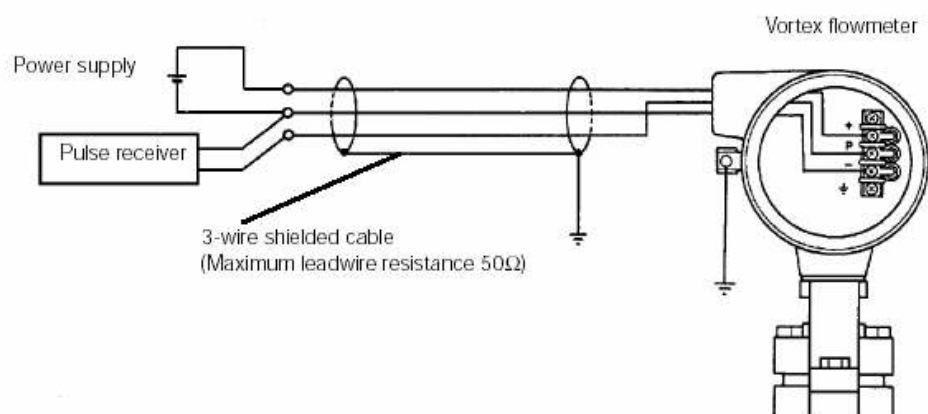

Fig. 4-4. Vortex flowmeter wiring connections (pulse output)
The remote converter type (VF100-N) Vortex flowmeter is used with the Model VFA11 converter (see Fig. 4-4). To connect these instruments, use a special cable (VF011). 20 m is the maximum length.
This version uses three wires between the converter and the power supply. 14 to 30 V DC power (allowable ripple ± 1.5 V or less) is required and pulse output is connected to a pulse receiver (see Fig. 4-4).
2. For pulse output version, ground the flowmeter as per Fig. 4-4. Also ground the shielded cable between the converter and the pulse receiver.